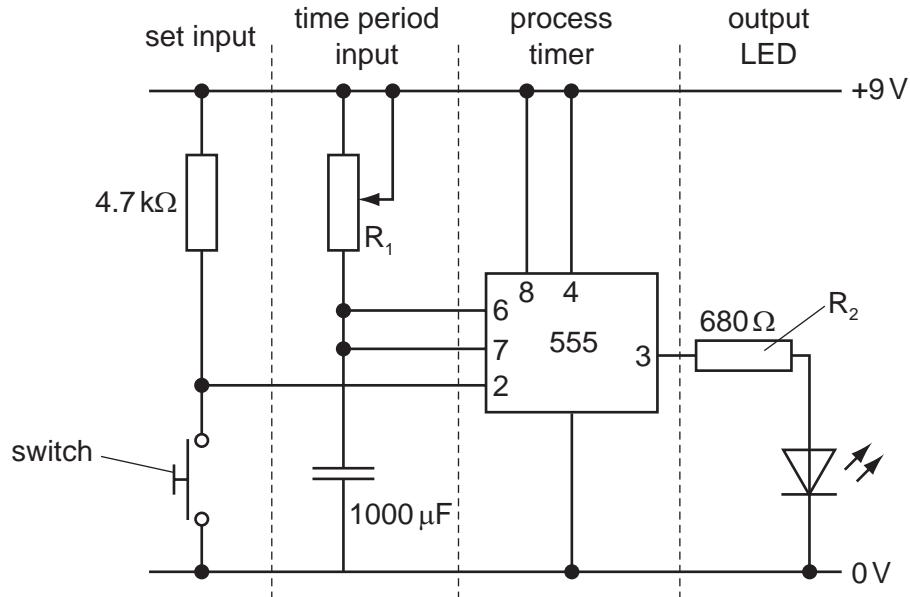

Fig. 3
- 10** Fig. 3 shows a circuit plan for a timer.
- (b) (i) Identify the switch shown in Fig. 3.